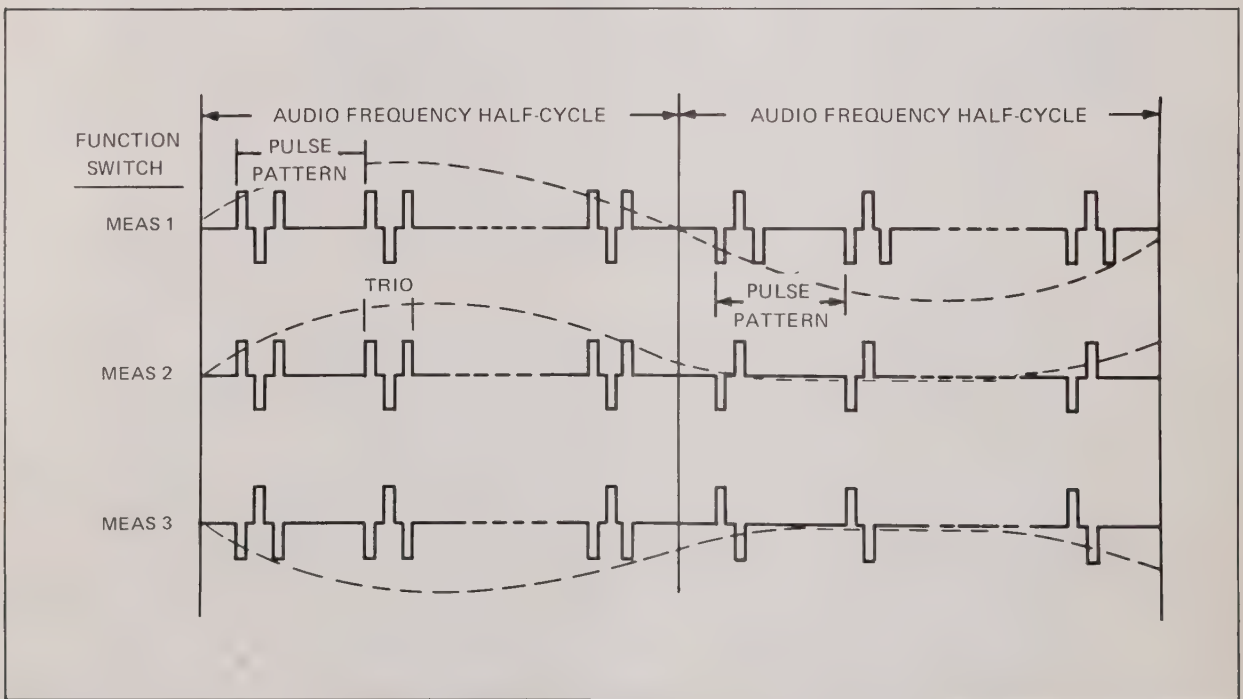

Figure 2-3. Transmitter Pulse Pattern
Step 8: Set 415A-2 FUNCTION selector control switch to MEASURE 1 and SYSTEM Mb/s selector control switch to 1.544 (T1). Verify that a series of pulse TRIOS are present. (Refer to Figure 2-3. It may be necessary to readjust oscilloscope sweep rate.)